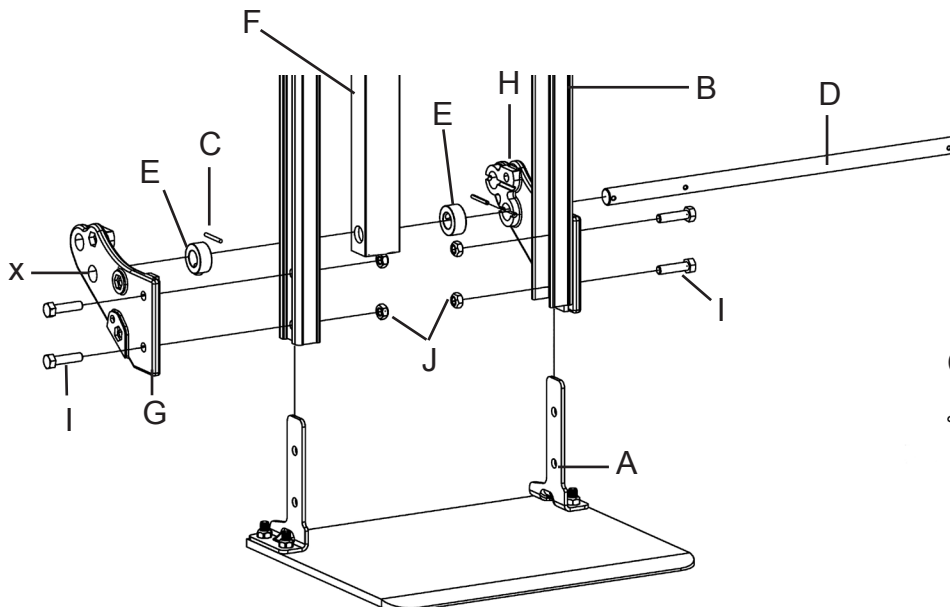

Figure 1
- Slide the frame (B) down and over the RH and LH nose mounting brackets on the nose plate assembly (A), temporarily inserting one 5/16"-18 x 1-1/4" long hex head screw (I) through the upper hole of the LH nose mounting bracket and the upper frame mounting hole.
- Position and attach the RH wheel bracket (G) to the outside of the frame leg, aligning the mounting holes with the frame and RH nose mounting bracket holes. Insert two 5/16"-18 x 1-1/4" long hex head screws (I) through the wheel bracket mounting holes and thread on one 5/16"-18 hex lock nut (J) (see Figure 1). NOTE: Do not tighten securely at this time.
- Insert the axle (D) (the end with the roll pin in place) through the lower axle hole in the RH wheel bracket (G) (labeled x on Figure 1). NOTE: Rotate axle until roll pin "locks" into position in the wheel bracket.
- Position and attach the LH wheel bracket (H), sliding it over the axle to the outside of the frame leg. Insert one 5/16"-18 x 1-1/4" long hex head screw (I) through the bottom mounting hole of the wheel bracket, frame and nose mounting bracket; then thread on one 5/16"-18 hex lock nut (J). Remove the upper 5/16"-18 x 1-1/4" long screw and re-install through the upper mounting hole of the wheel bracket; thread on one 5/16"-18 hex lock nut (see Figure 1). NOTE: Do not tighten securely at this time.
- Install the other roll pin (C), tapping lightly with hammer to center.